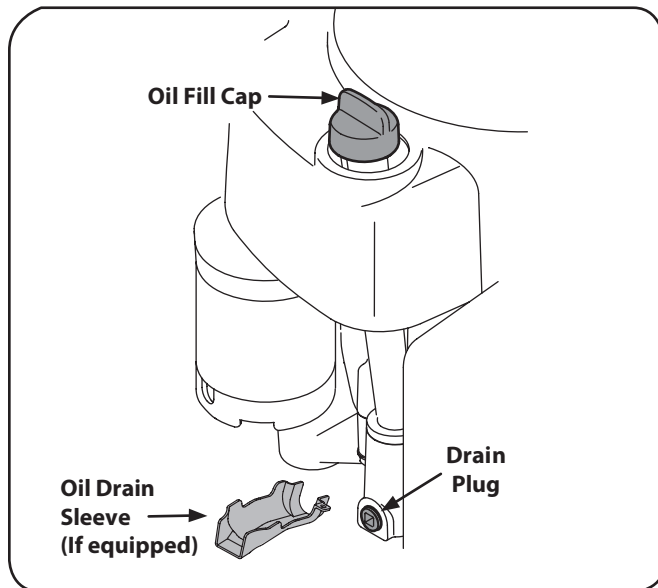

Figure 6-1
2. Snap the small end of oil drain sleeve (if equipped) onto the engine casting around the oil drain plug. See Fig. 6-1.
3. Remove drain plug and allow oil to drain into a suitable container. See Figure 6-1.